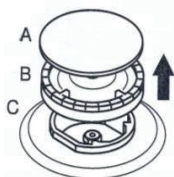
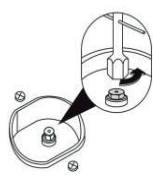
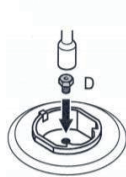
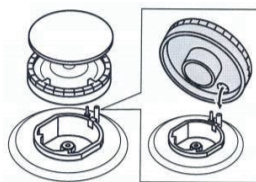

Figure 19
Figure 19.1
Figure 19.2
Figure 19.3
Remove the burner cover and burner as shown in the Figure 19. Remove the injector by help of 7's socket screw driver as shown in the Figure 19.1. Fix the injector (D) you want to convert as shown in the Figure 19.2 (see Table 1). Put the burner in place again as shown in the Figure 19.3. Upon completion of the conversion, then burn the burners in order and remove the switch on the control panel and adjust the low flame length by tightening or untightening the screw on the gas valve (19.4 cock) or inside the valve shaft.